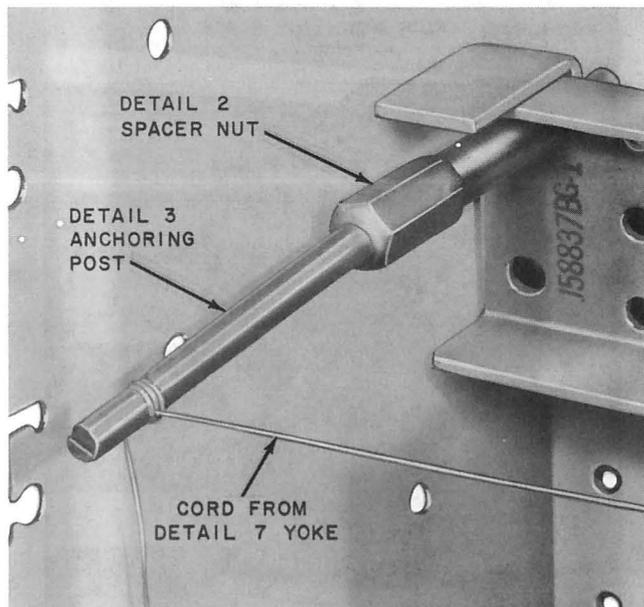

Fig. 15—Detail 3 Anchoring Post Inserted in Left Detail 2 Spacer Nut
- (h) Insert the Detail 3 anchoring post into the left Detail 2 spacer nut and hand tighten. See Fig. 15.